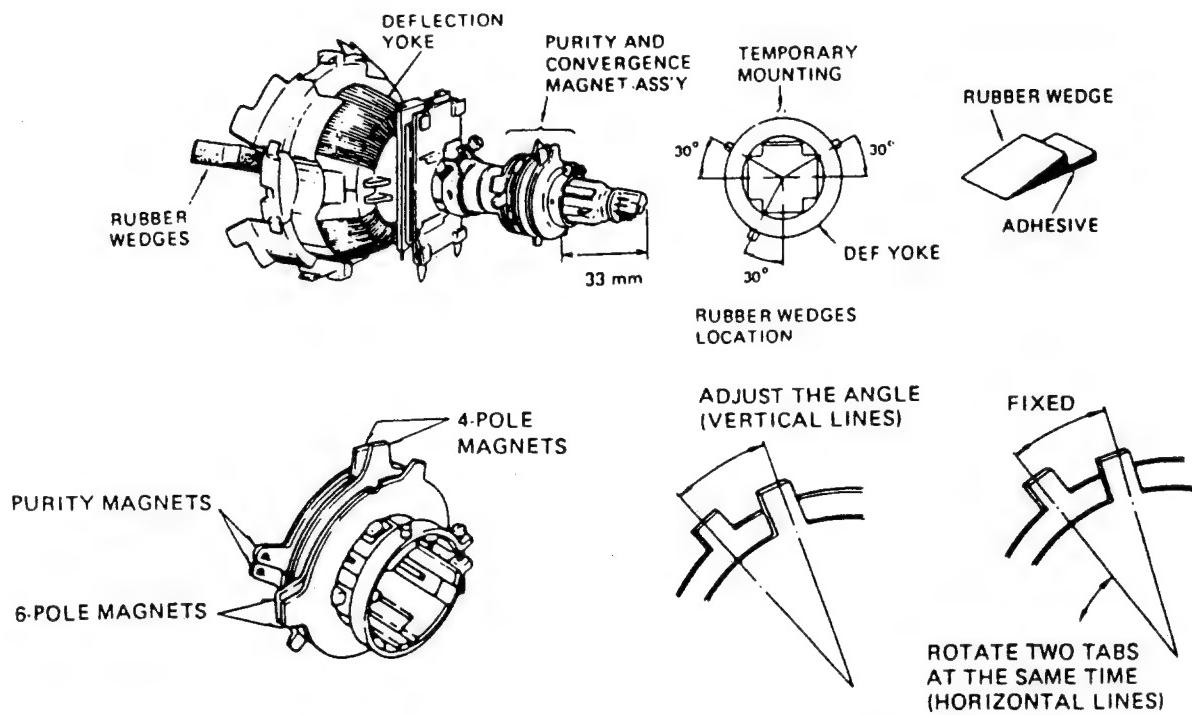
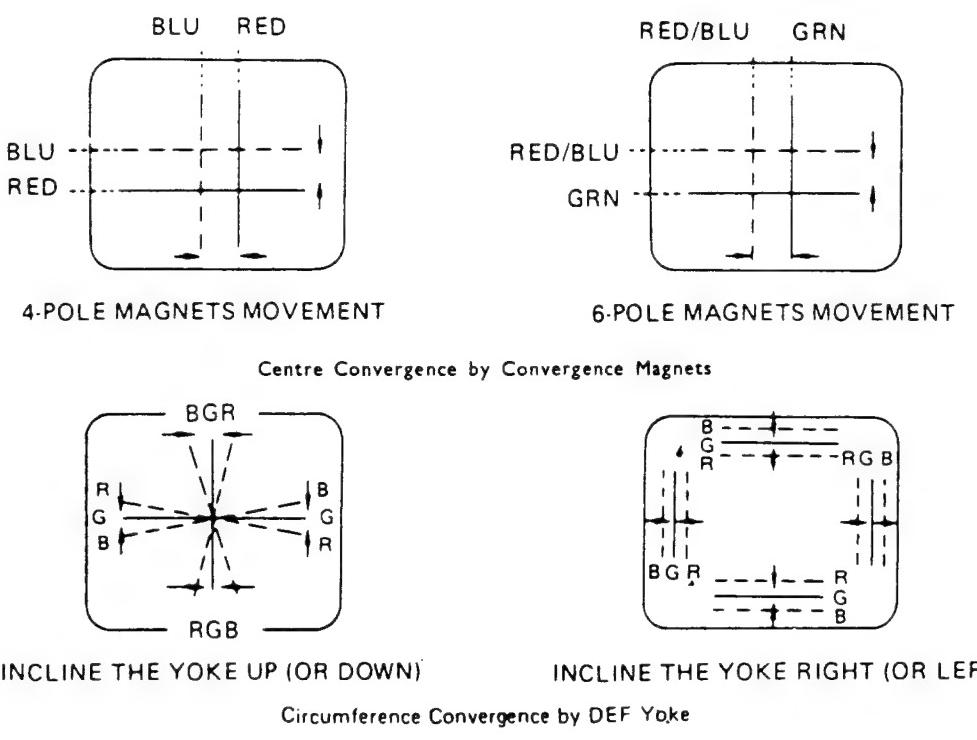

Figure 16.
Figure 17.
3. Adjust two tabs of the 4-Pole Magnets to change the angle between them (See figure 16.) and superimpose red and blue vertical lines in the central area of the picture screen. (See figure 17.)
4. Turn the both tabs at the same time keeping the constant angle to superimpose red and blue horizontal lines at the centre of the screen. (See figure 17. )
3. Tilt front of the deflection yoke up or down to obtain better convergence in circumference. (See figure 17. ) Push the mounted wedge into the space between picture tube and the yoke to fix the yoke temporarily.
5. Tilt front of the yoke right or left to obtain better convergence in circumference. (See figure 17.)